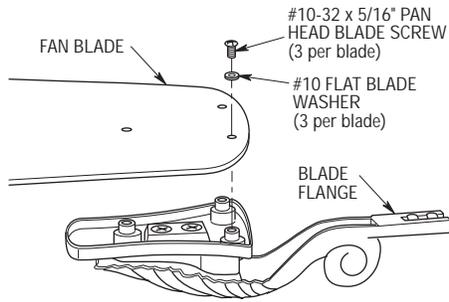

Figure 6
- 1. Mount blade flanges to fan blades using three #10-32 x 5/16” pan head blade screws and three #10 flat blade washers (supplied in loose parts bag) (Figure 6).